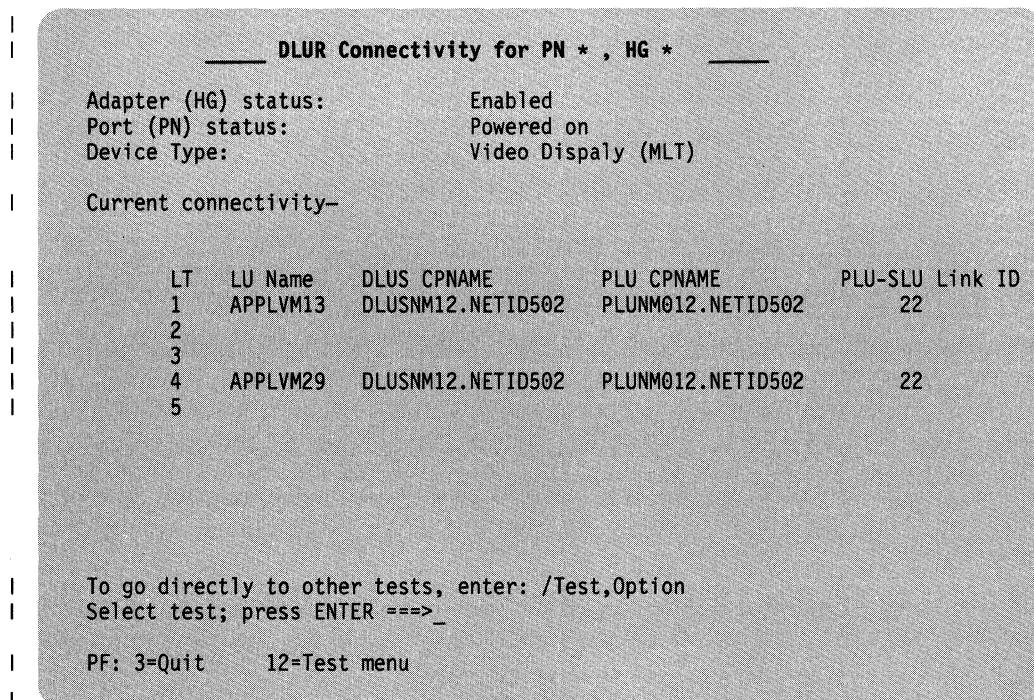

Figure 4-18. Example of a DLUR Connectivity Panel Showing DLUR LU Status
**Test 3, Option 5,n,m:** Provides a facility to display the DLUR connectivity for a specified 3270-dependent LU device (n=0–31, m=26–27). Figure 4-18 shows an example of an enabled adapter and a 3270 display secondary LU connected to a primary LU in an APPN DLUR network.